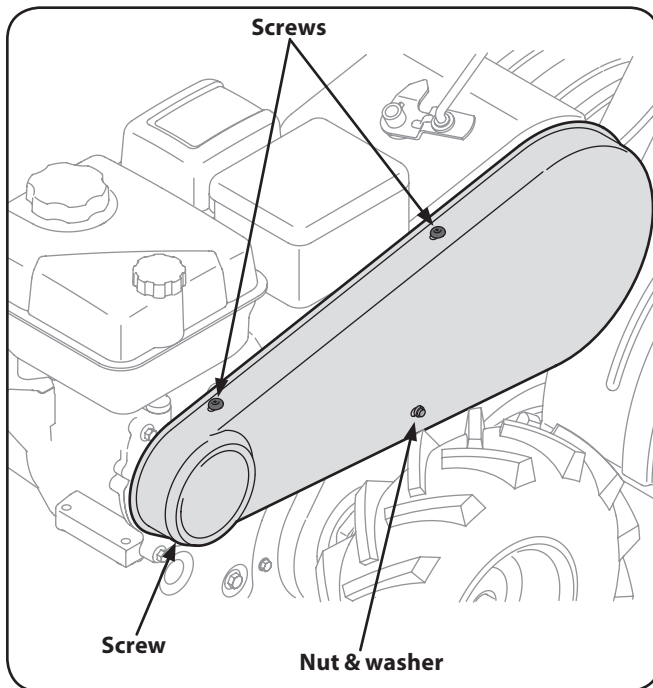

Figure 7-1
2. Remove the belt cover from the left side of the tiller by removing the two screws from the top of the belt cover. See Figure 7-1.